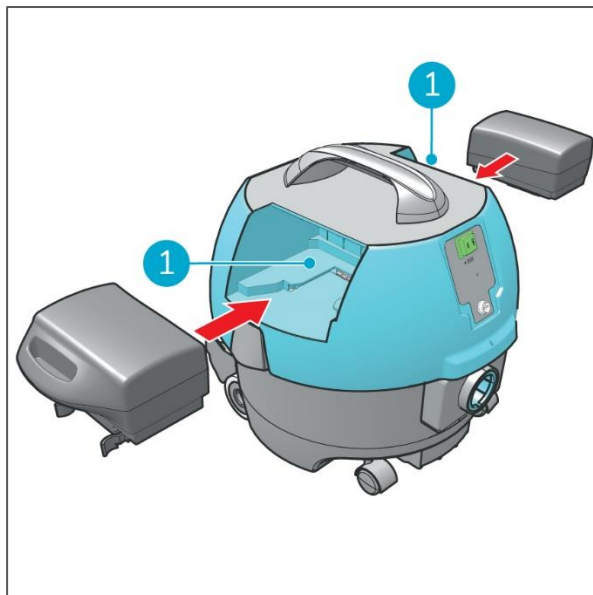

Figure 16
1. Align each battery with the slot (Figure 16, pos 1) and slide each battery in until you hear a "click". The batteries are now fixated.